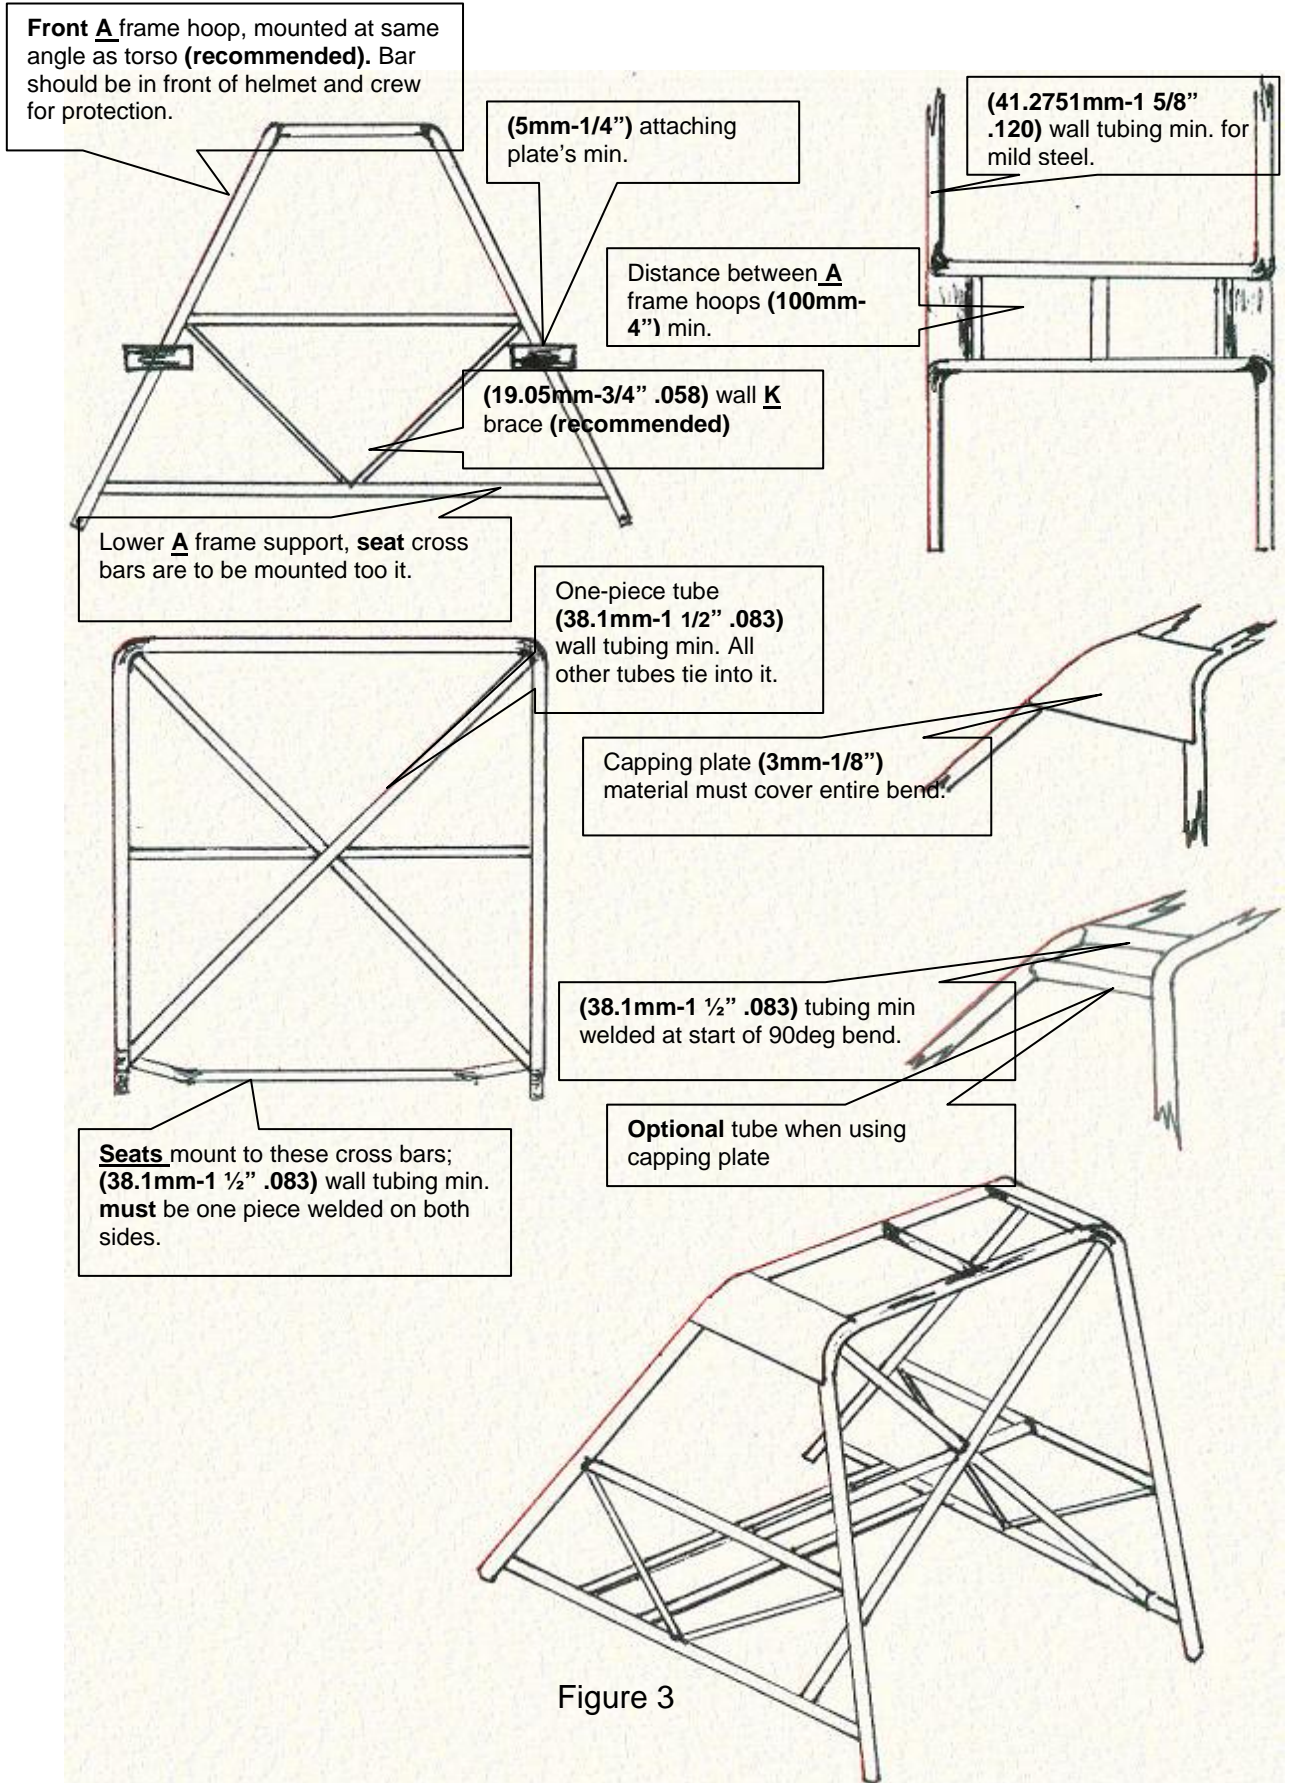

Figure 3
- 8.4.13. Seats must mount to the one piece cross bars attached securely to the roll cage, shown in Figure 3 and must be attached at all manufacturers located mounting points. A minimum 4 points at the base and one at the back above the shoulder line of any crew is required.